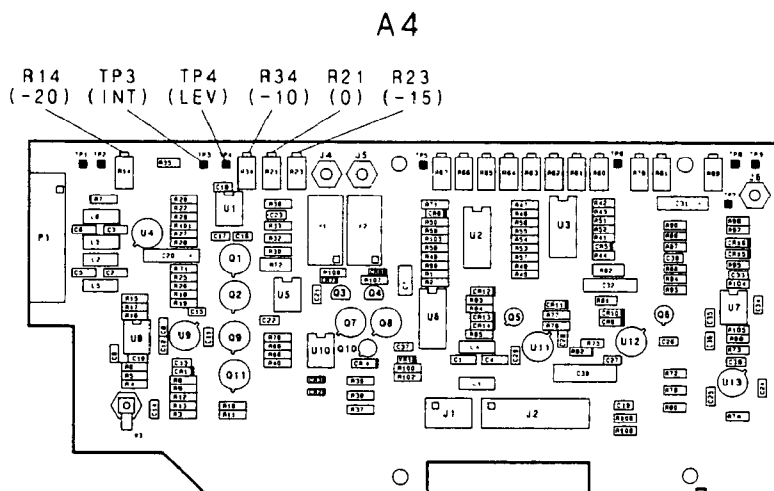

Figure 5-7. Dual Slope Log Adjustment Location
2. Adjust A4R34 ( $-10$ ) fully clockwise. See Figure 5-7.